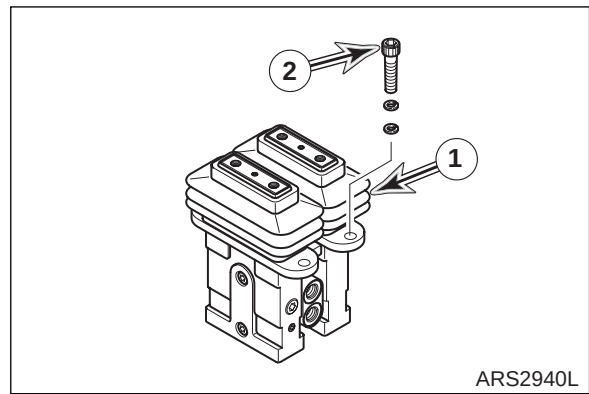

Figure 10
11. Remove four bolts and washers (2, Figure 10), and pedal valve (1).